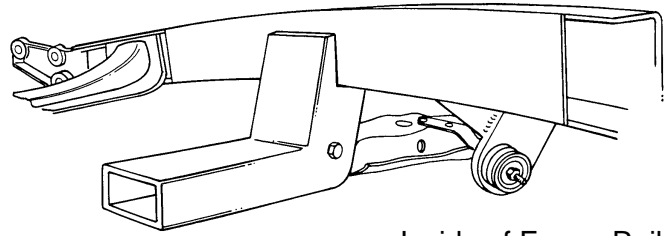

Figure 7 Inside of Frame Rail
12. Install the strut rod onto the control arm. Now, assemble onto the strut rod the large rubber bushings, including the cupped washers, and the strut mount plate. Be certain to fully tighten the nut on the strut rod to its' fully seated position. See Figure 7. There are two rubber bushing sets available; the standard replacement and the improved set. We recommend the improved set, as it provides more stability to the front suspension. The Pinto and Mustang strut rods are different lengths. We recommend the use of Pinto strut rods, as they are bent less than the Mustang strut rods. You will find that with either strut rod the strut rod plate does not line up with the bottom of the frame rail. The strut rod must be heated in the elbow area and bent outward. The rod is bent outward until the strut mounting plate lines up to the frame rail. You will find that because the Pinto strut rod is initially bent less and requires much less bending. The strut rod will act as an alignment fixture while you tack weld the mount plate in place, then tack weld the gusset in place. Remove the strut rod, bushings, and arm, and finish welding to the frame and each other.